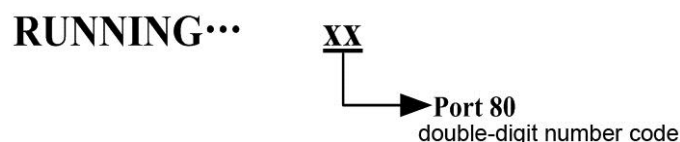

Figure 3-7 System status
- To enter SYSTEM STATUS L2 sub-menu, if the system is under POWER ON status, the LCD module will display RUNNING... xx(xx indicates Port80 information), shown as the figure 3-7.